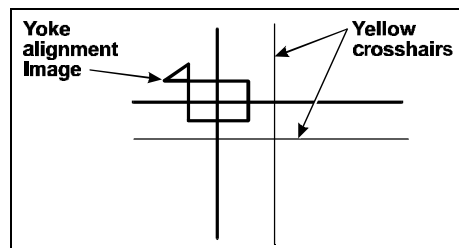

Figure 5-11. Yoke alignment image
5. Press F8 to start the yoke adjustment program and display the yoke alignment image (Figure 5-11) on the video monitor.